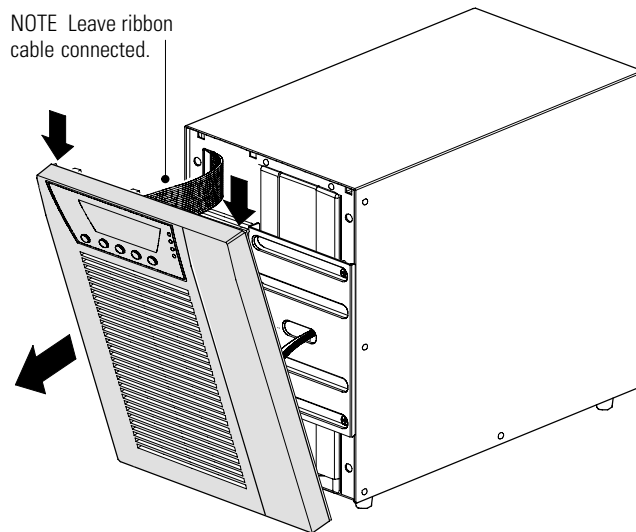

Figure 25. Removing the UPS Front Cover
1. Remove the UPS front cover (see Figure 25).